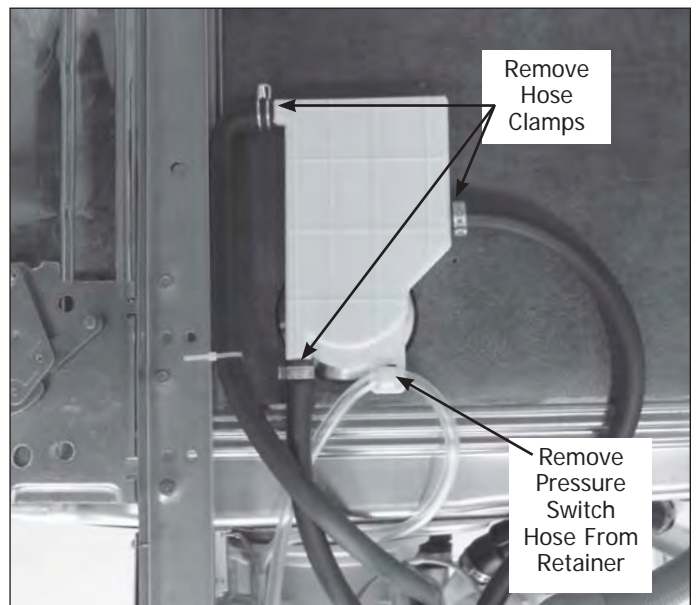

Figure 4-37.
9. From the outer right side of unit, disconnect the three hose clamps from the water tunnel. Remove the pressure switch hose from the bottom retainer of water tunnel. (See Figure 4-37)